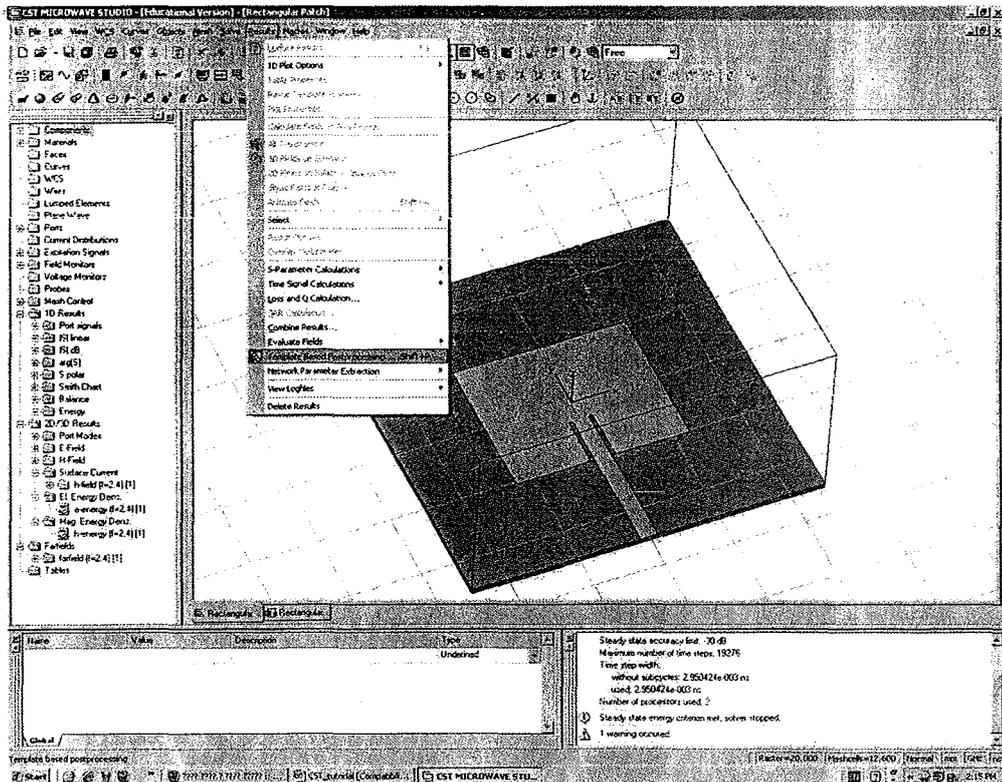

Fig.25 Displaying the post processing results (a)
- c. To show the radiation pattern(s) plots go to the left pane then click on **2D/3D Results** then select Farfields > farfield (f=2.4) as shown in Fig.25
- To show some post processed results (i.e. VSWR, Z-parameters, group delay,.....) go to the main menu > Template based postprocessing as shown in Fig.25